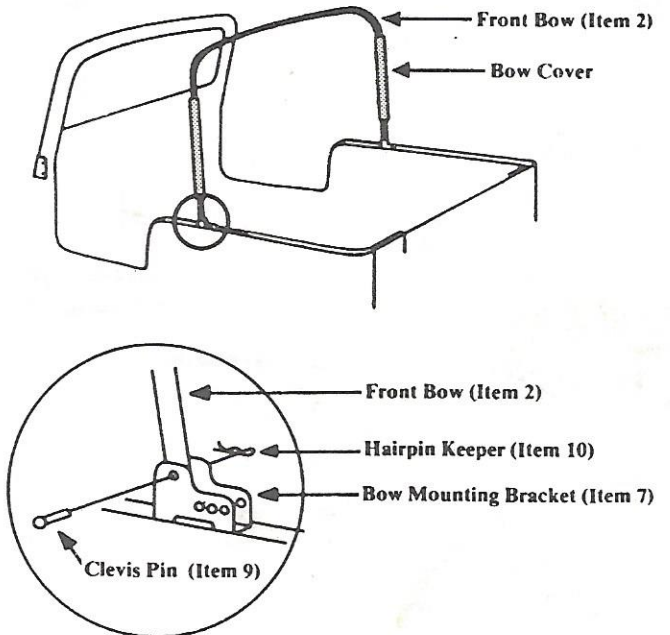

Fig. 6
1. Assemble two halves of the Front Bow as shown in Figure 6. Slide a Bow Cover over each leg of the Bow. Be sure two large holes in Front Bow face the front of the vehicle.
2. Secure one leg of the front Bow to the Bow Mounting Bracket with a Clevis Pin and Hairpin Keeper as shown in Figure 6.